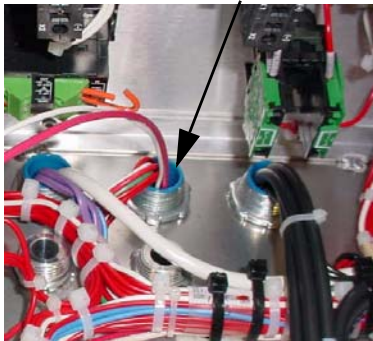

FIG. 2: H-20/35 Pro Upper Control Box - Conduit
1. If necessary, use a stiff wire to feed the two new wires from the lower compartment, through the middle (large) conduit, and to the upper control box. See FIG. 2.
1. Tape the two new wires (plain ends) to a piece of flexible steel wire. Route wires from the lower compartment, through the middle (large) conduit, and to the upper control box. See FIG. 2.